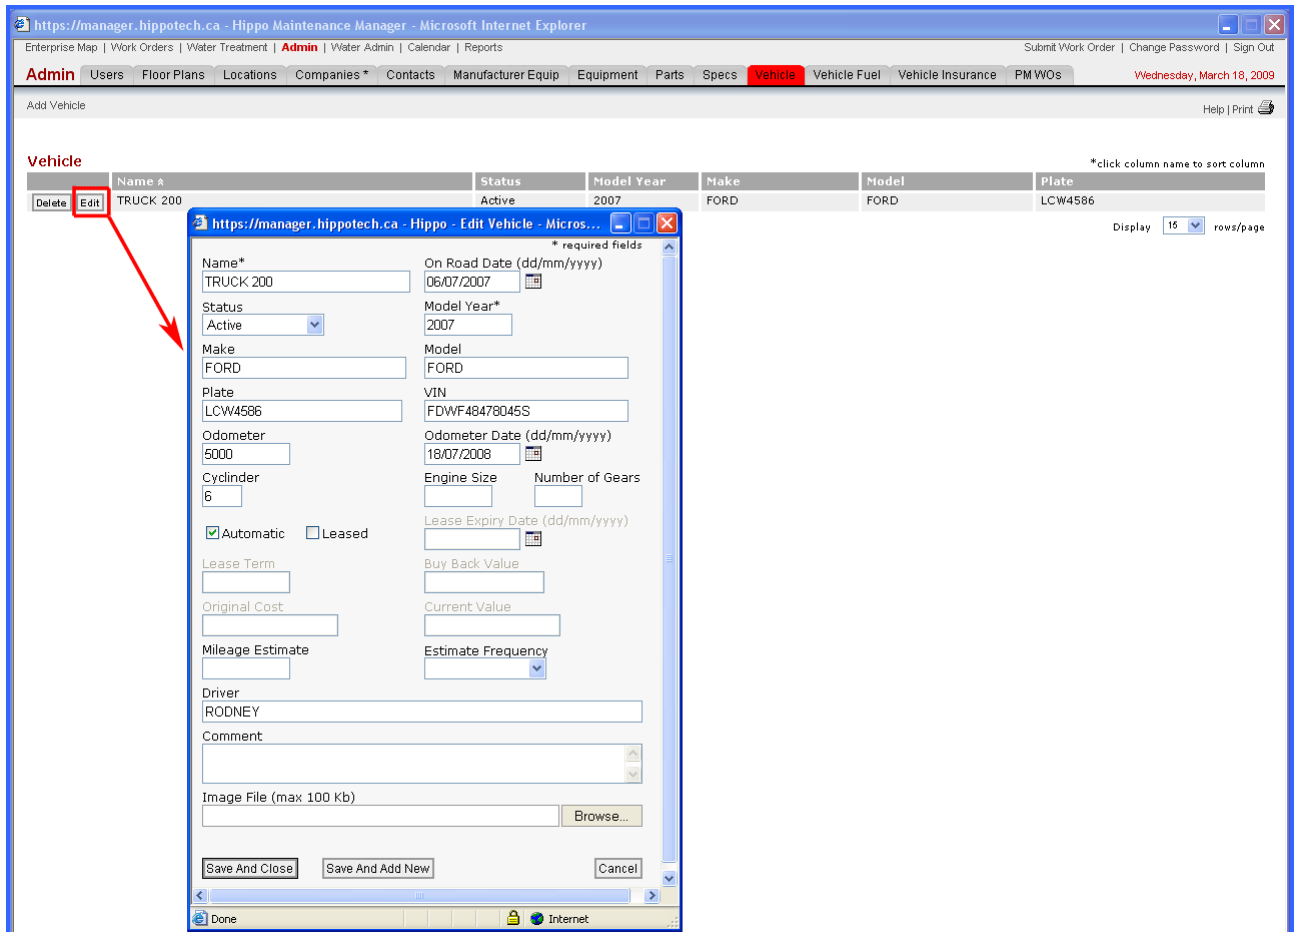

Figure 48: Edit Vehicle
2. Click the **Edit** button beside the vehicle you want to edit to bring up the vehicle window (See Figure 48).